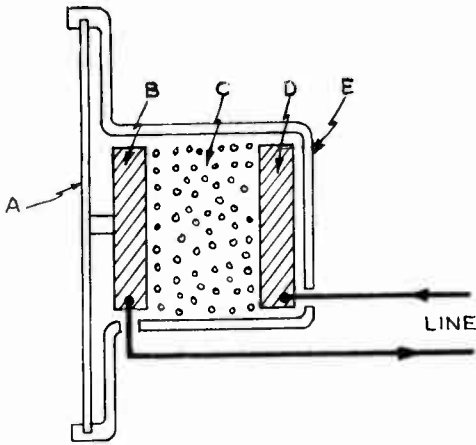

Fig. 15. Principal of construction and operation of a typical microphone of the carbon granule type.
**32. THE MICROPHONE:** The most popular form of microphone is the carbon type. Its operation is similar to that of the common telephone transmitter. Fig. 15 shows a cross sectional view of a simplified microphone. The diaphragm A, of thin aluminum or iron, is rigidly fastened to the polished carbon button B and is held fixed around its outside edge by the insulated case E. A second carbon button D is fastened rigidly in place and the space C is filled loosely with carbon granules.
cillators. This is shown in Fig 15 (C) previously referred to. Notice that it is an alternating current and that the height or strength of the current during each cycle is exactly the same as during any other cycle.
If the voice current of Fig. 15(B) is allowed to regulate the flow of the radio frequency current of Fig. 15(C), that is, to modulate it, the result is high frequency current of Fig. 15(D) called the modulated oscillating current. This current is no longer of constant amplitude but its strength varies in exact accordance with the variations in strength and frequency of the voice current, or the spoken sounds. That is, the steady oscillating current is modulated by the voice current. This is accomplished by a vacuum tube known as the modulator tube.